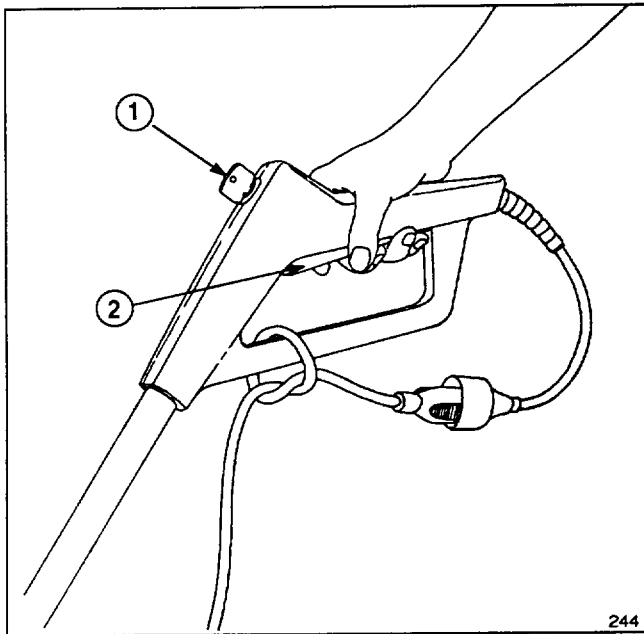

Figure 6
extension cord to the lower handle before connecting to the Power Shovel cord; refer to page 6, Figure 6 for proper procedures.
1. Tie extension cord to the lower handle of control grip (Fig. 6) before connecting to the Power Shovel cord. This helps prevent the separation of the cords during operation.
2. Plug the extension cord into a wall outlet and insert key into hole located on the front side of the control grip (Fig. 6).
To start the Power Shovel, install the key and squeeze the switch bar. To stop, release the switch bar (Fig. 6).